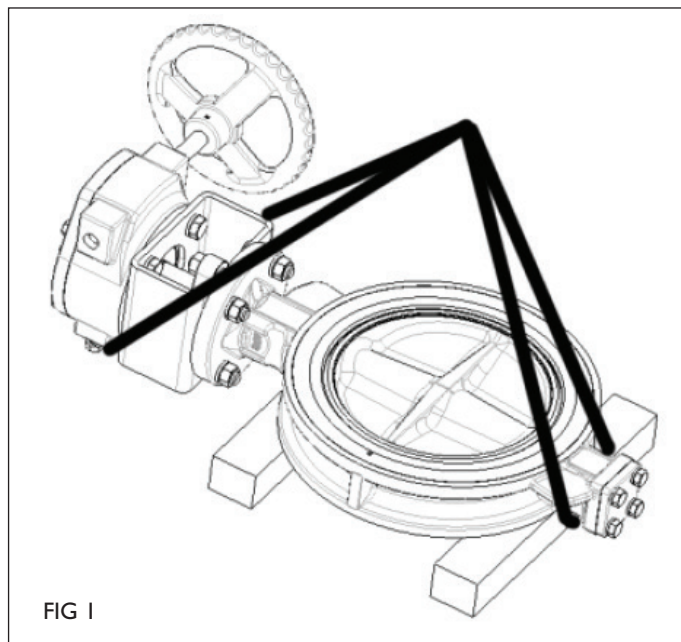

FIG 1
- b. Place the valve horizontally on the wooden pieces in order not to damage the valve and with the seat retainer facing up (Fig. 1).